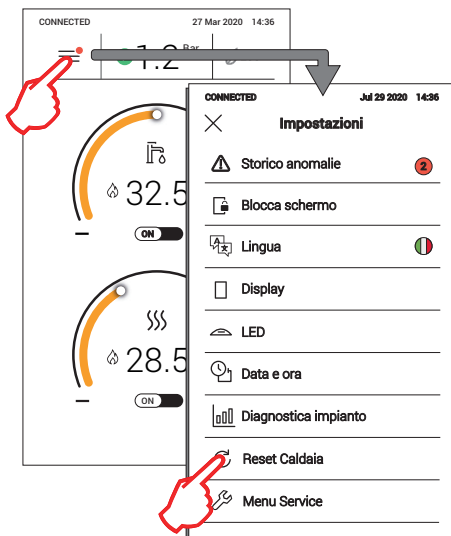

fig. 46
- 2 - Touching the main menu icon and then [Boiler Reset] when a screen similar to that shown in fig. 46 (main menu icon with red dot) appears.